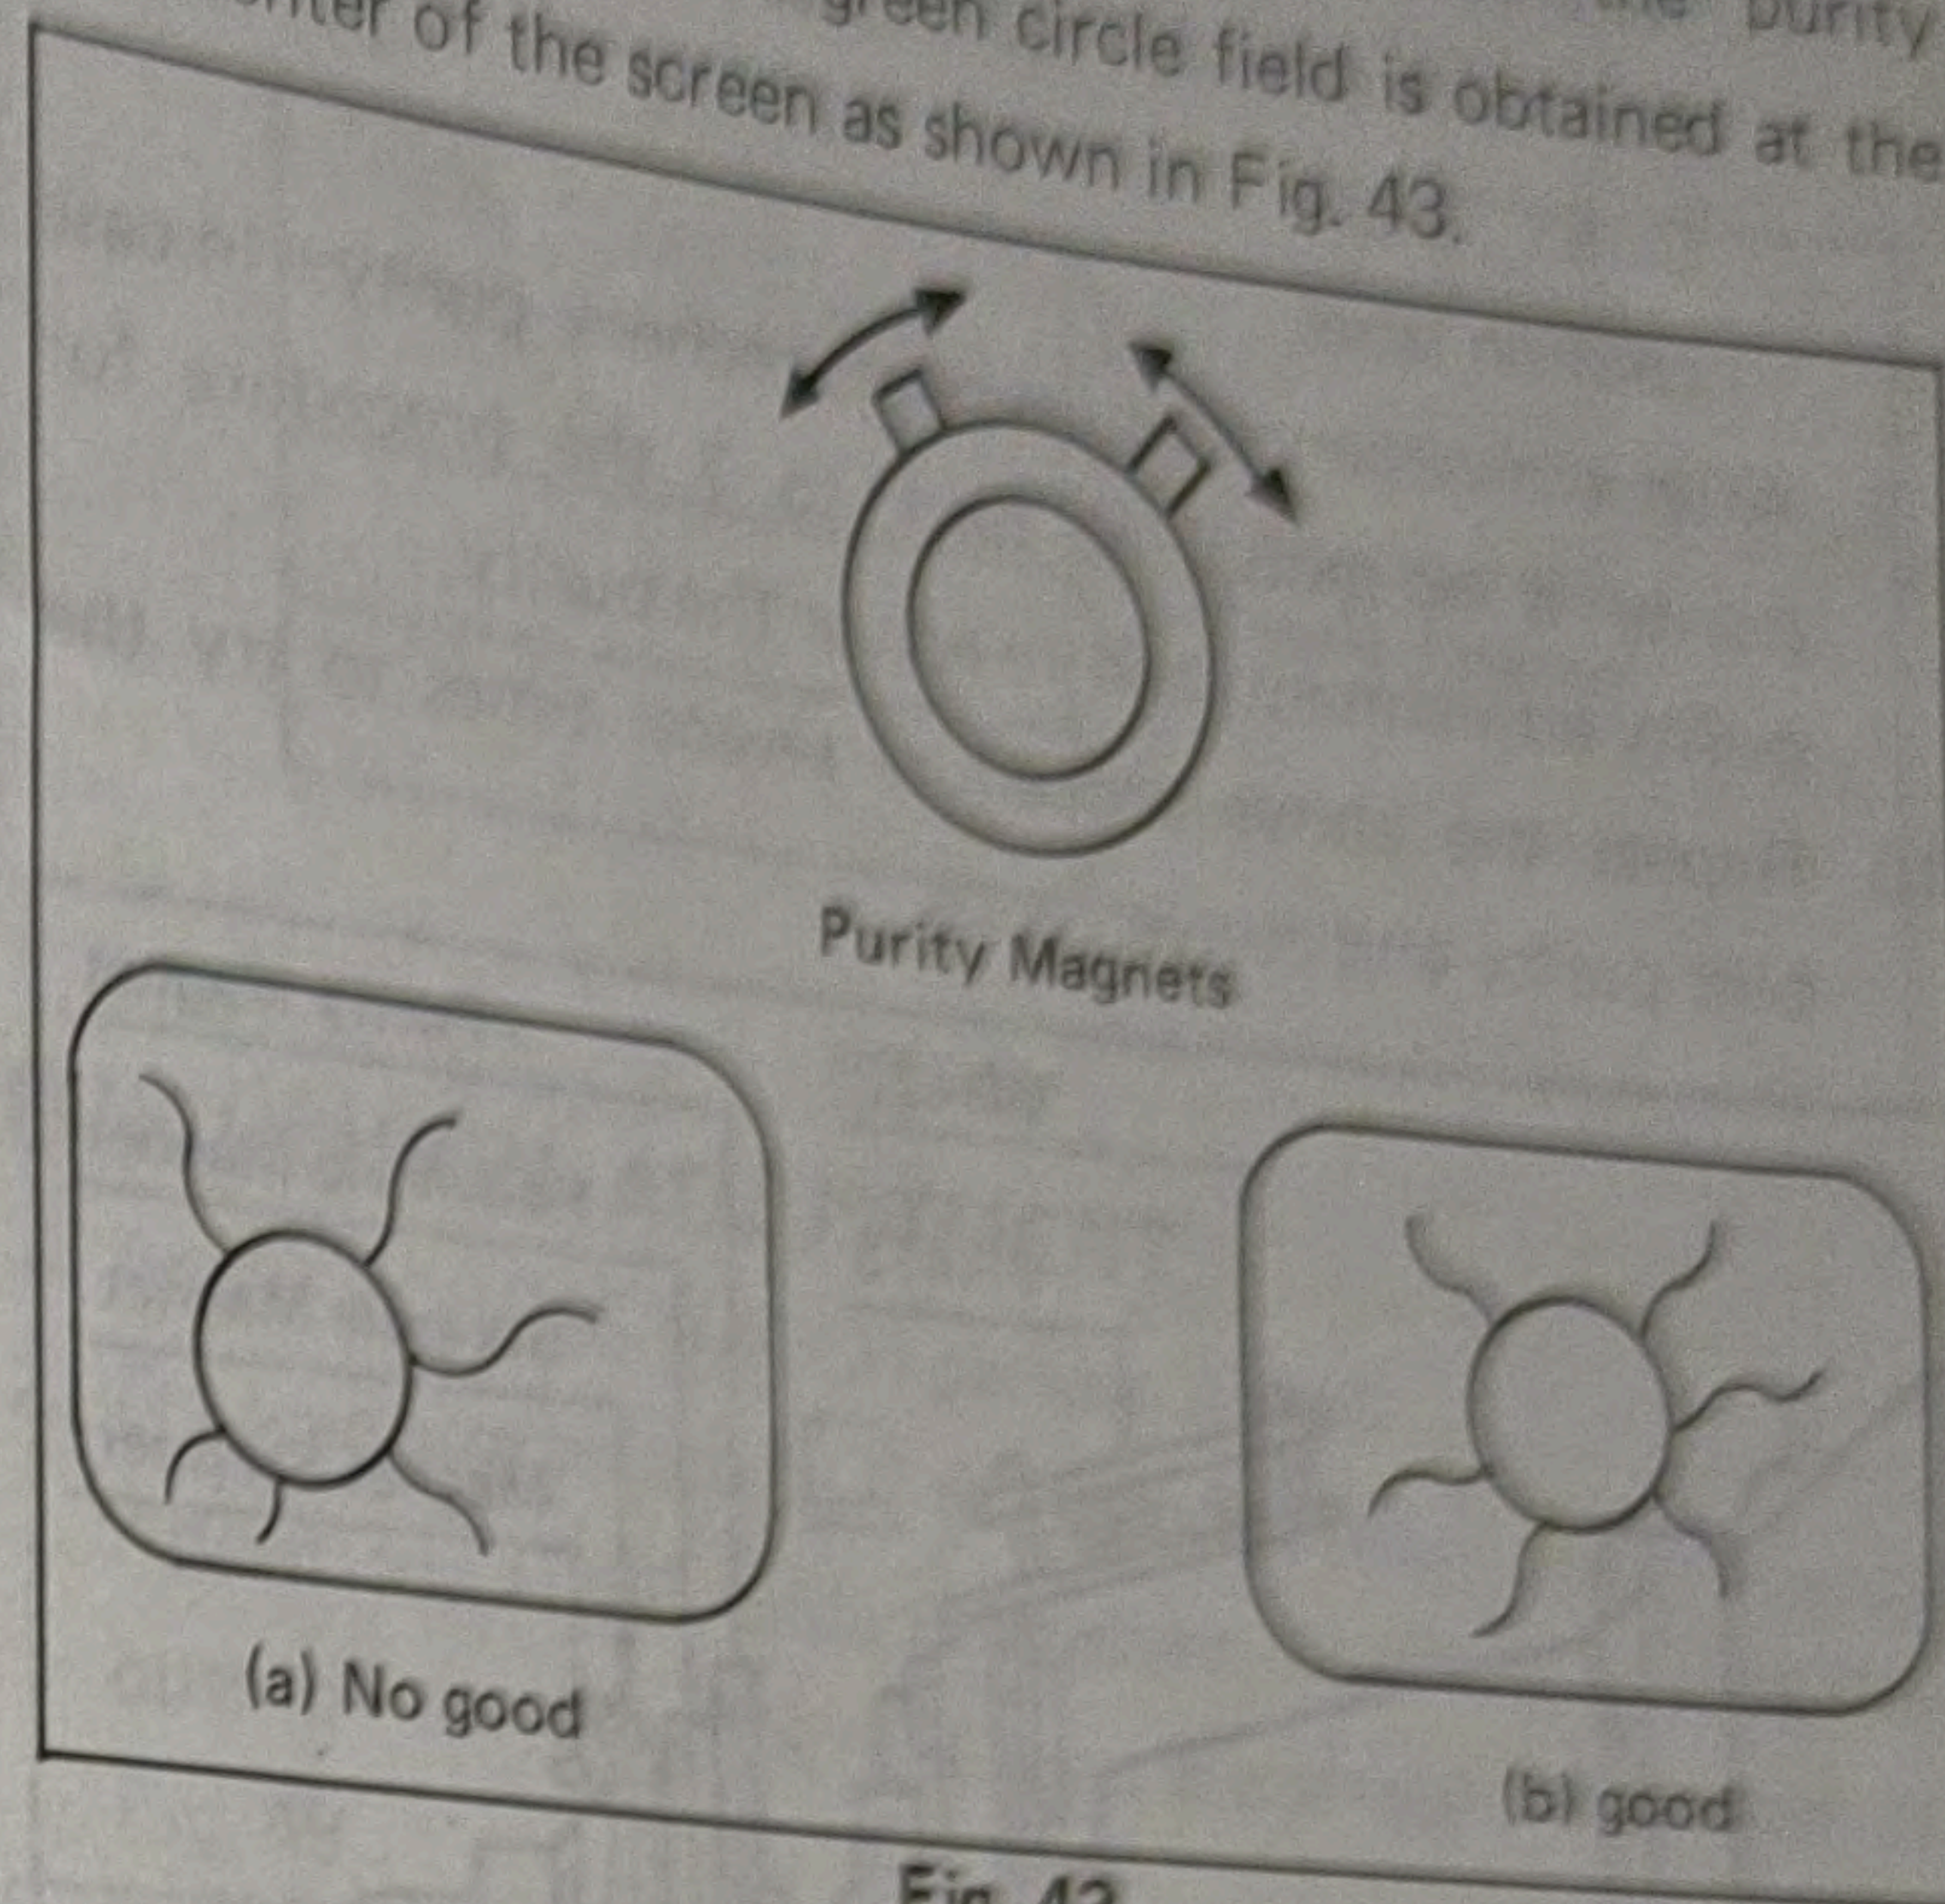

Fig. 43
7. Remove the silicone sealer and adjust the purity magnets so that a green circle field is obtained at the center of the screen as shown in Fig. 43.